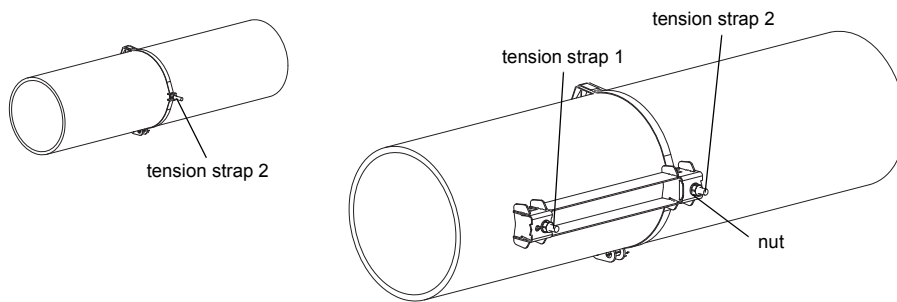

Fig. 8.17: Rail, mounted on one side of the pipe
- Screw the rail to tension strap clamp 2 (see Fig. 8.17).